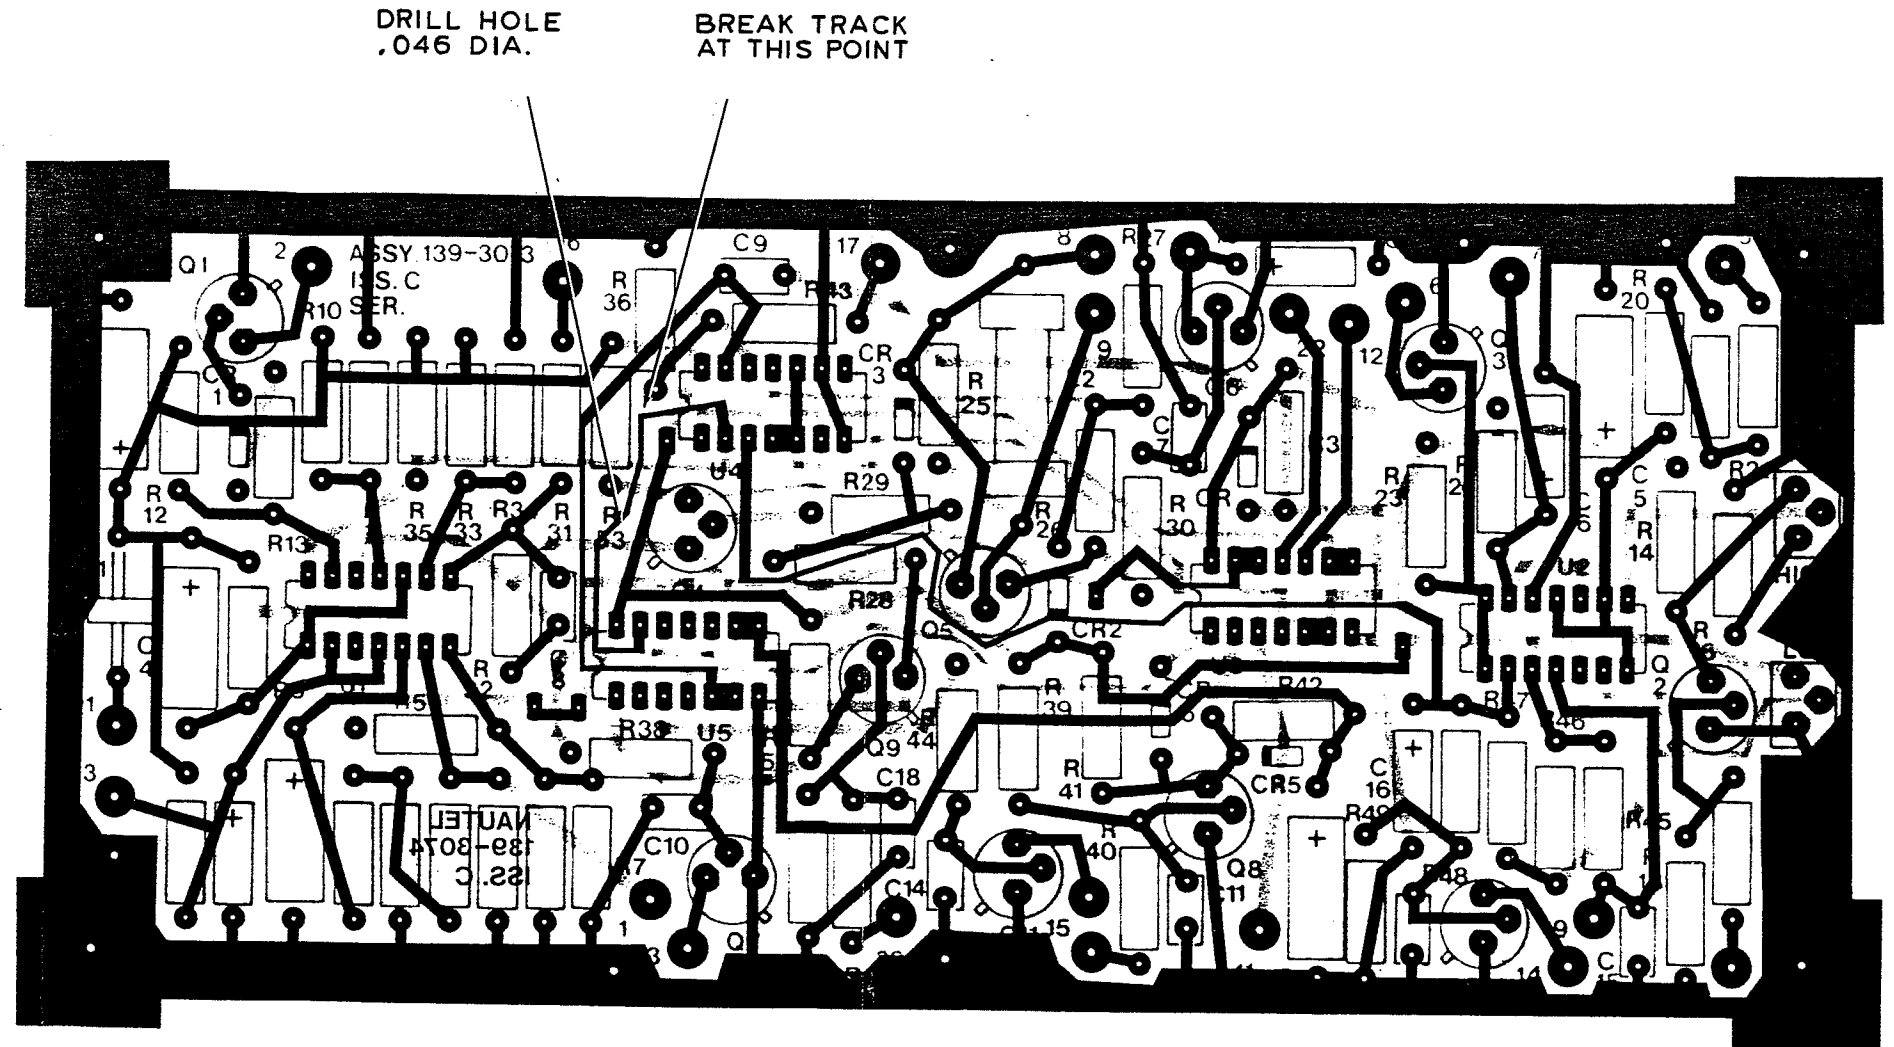

Figure FO-2 Monitor PCB Layout, Top View Through the Board
- (m) Locate printed circuit track that connects U5-13 to U4-2. Refer to figure FO-2 Monitor PCB Layout, Top View.
- (n) Using a marker, make an indication on the PCB where a terminal can be installed through the track from U5-13 to U4-2, but not shorting to adjacent PCB track, as indicated in figure FO-2.
- (s) Break printed circuit track between U4-2 and U5-13, as indicated in figure FO-2, using a small drill grinder or other appropriate tool.